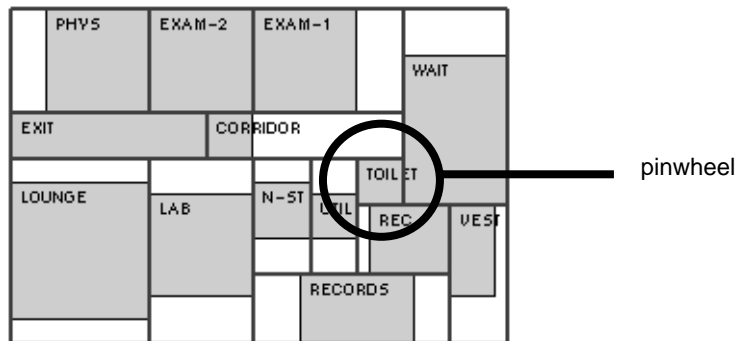

FIGURE 8. Pinwheel configuration of Walls
2. In the new Layout, select CORRIDOR, REC and the horizontal wall between them. Click the Add Unit button. You’ll see a pinwheel configuration of walls around the TOILET in the newly created Layout (Figure 8).